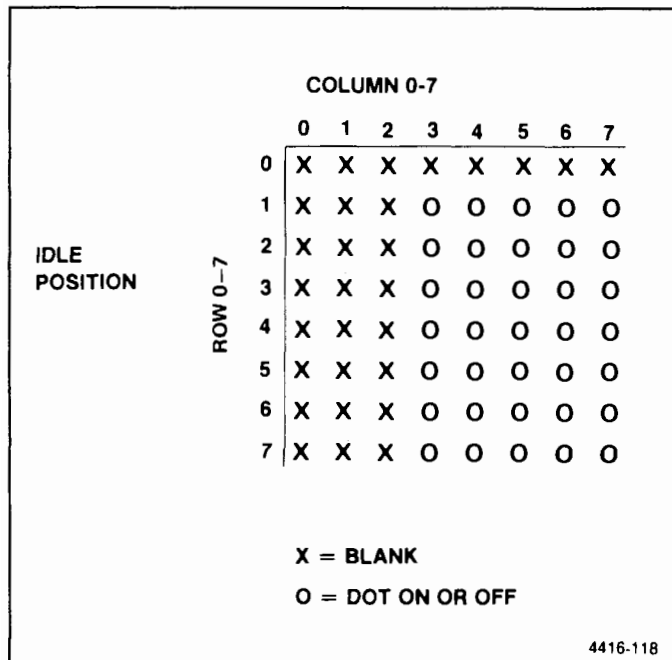

Figure 7-19. Character scan.
**Character Scan.** Although the 8678 character generator IC, U2048, is often used in raster scans, in this application it is used to write complete characters, as shown in Figure 7-19. A character is drawn as a pattern of dots in an 8 x 8 matrix where the top row and first three columns are blank. These blank dots allow for beam retrace and spacing. The idle position between characters is indicated on the figure.